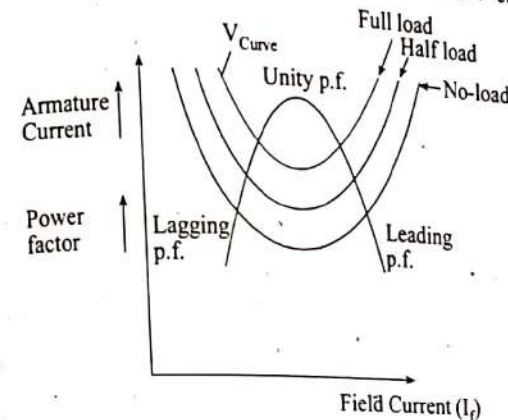

Fig. 2: V and inverted V-curves.
In between, it has minimum value corresponding to a certain excitation for which power factor is unity. The variation of I_a with excitation are shown in Fig. 2 which are known as 'V' curve.
- For the same input, armature current varies between a wide range and power factor also vary accordingly with excitation. When over excited, motor runs with leading power factor and the motor runs with lagging power factor when under excited. The variation of power factor with excitation is also shown in Fig. 2 and known as inverted V curves. It would be noted that minimum armature current corresponds to unity power factor.